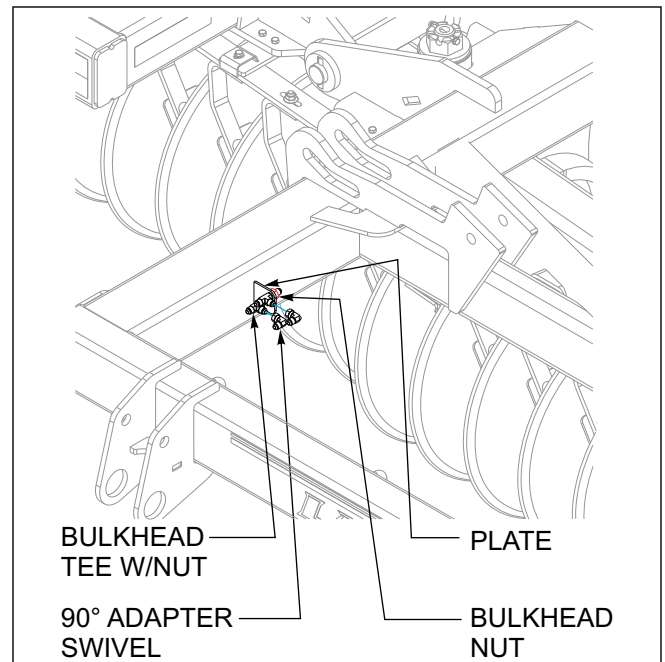

Figure 3-49: Bulkhead Tee Installation
8. Install bulkhead tee to plate on rear of wing frame, secure with bulkhead nut provided with tee (See Figures 3-49.) Attach 90 adapter swivel to bulkhead tee and swivel to rear of machine.